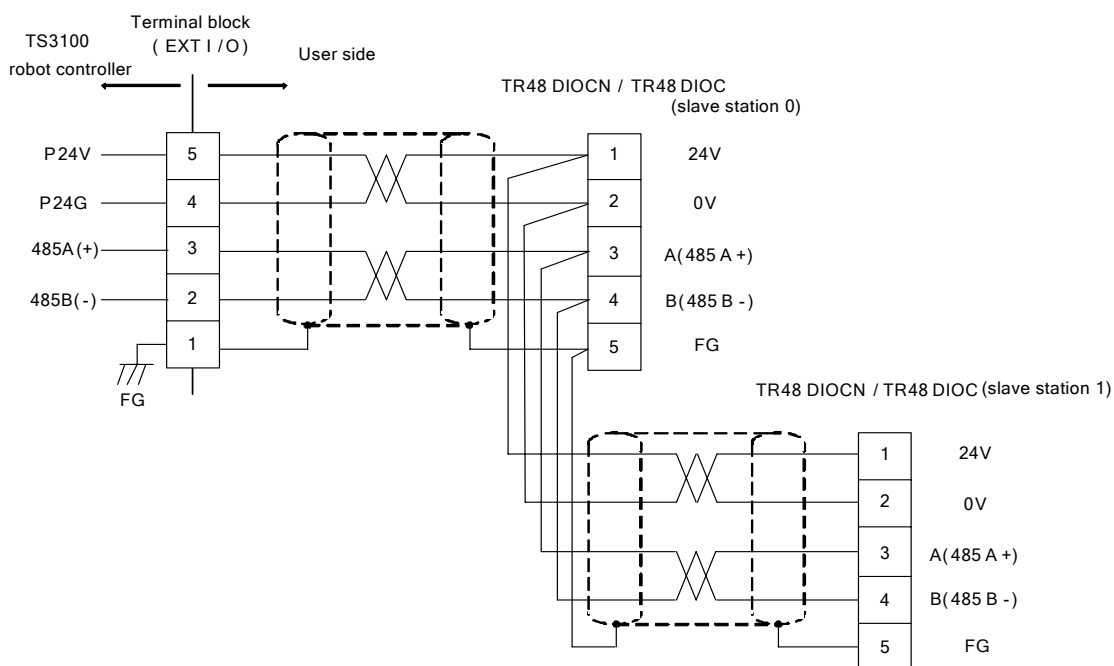

Fig. 7.2 Connection when relaying EXT-I/O cable
- When connecting two (2) TR48DIOCN/TR48DIOC modules for I/O extension, be sure to branch from the terminal block of slave station 0, as shown in Fig. 7.2. (For the I/O extension, up to two (2) TR48DIOCN/TR48DIOC modules can be connected.)